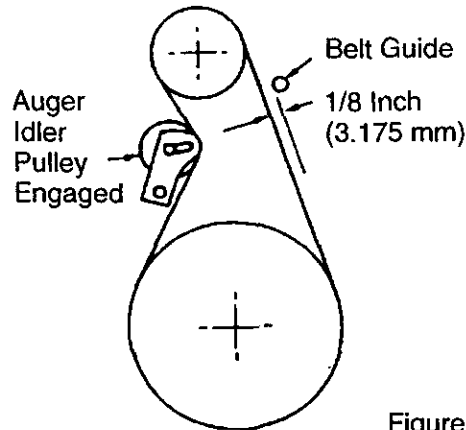

Figure 27
4. Measure the distance between the **belt guide** and **auger drive belt**. The **correct distance** is 1/8 inch (3.175 mm). See Figure 27.